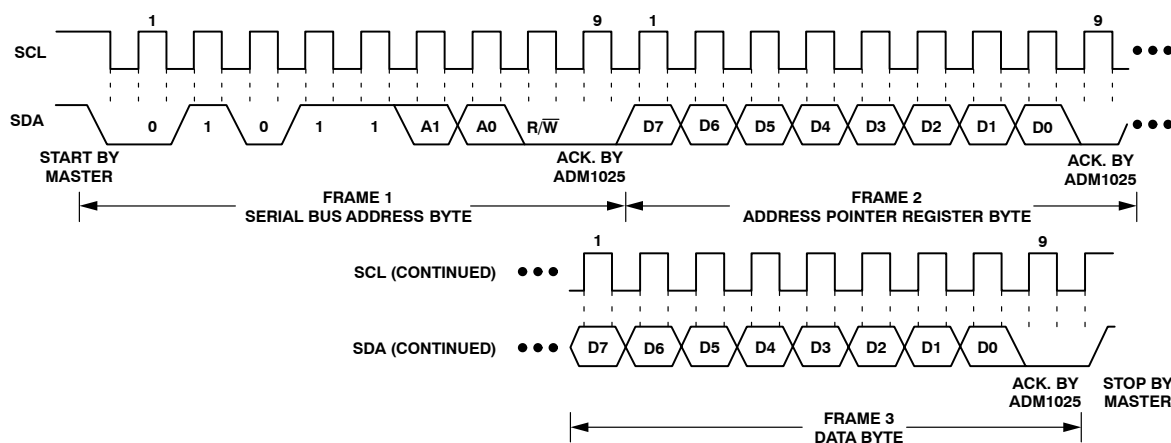
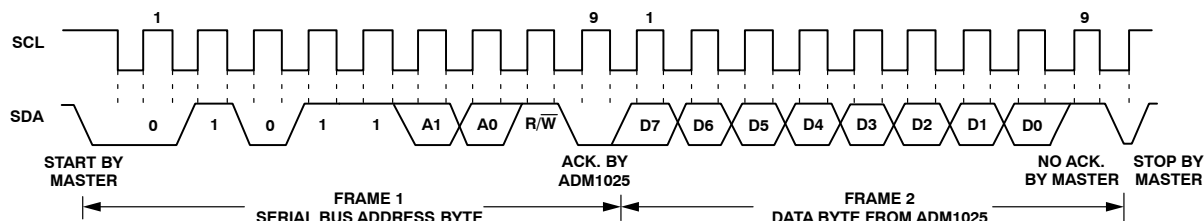

Figure 10. Writing a Register Address to the Address Pointer Register, then Writing Data to the Selected Register
Figure 12. Reading Data from a Previously Selected Register
This is illustrated in Figure 10. The device address is sent over the bus followed by $\text{R}/\overline{\text{W}}$ set to 0. This is followed by two data bytes. The first data byte is the address of the internal data register to be written to, which is stored in the Address Pointer Register. The second data byte is the data to be written to the internal data register.
2. In Figure 10 to Figure 12, the serial bus address is shown as the default value 01011(A1)(A0), where A1 and A0 are set by the three-state ADD pin.